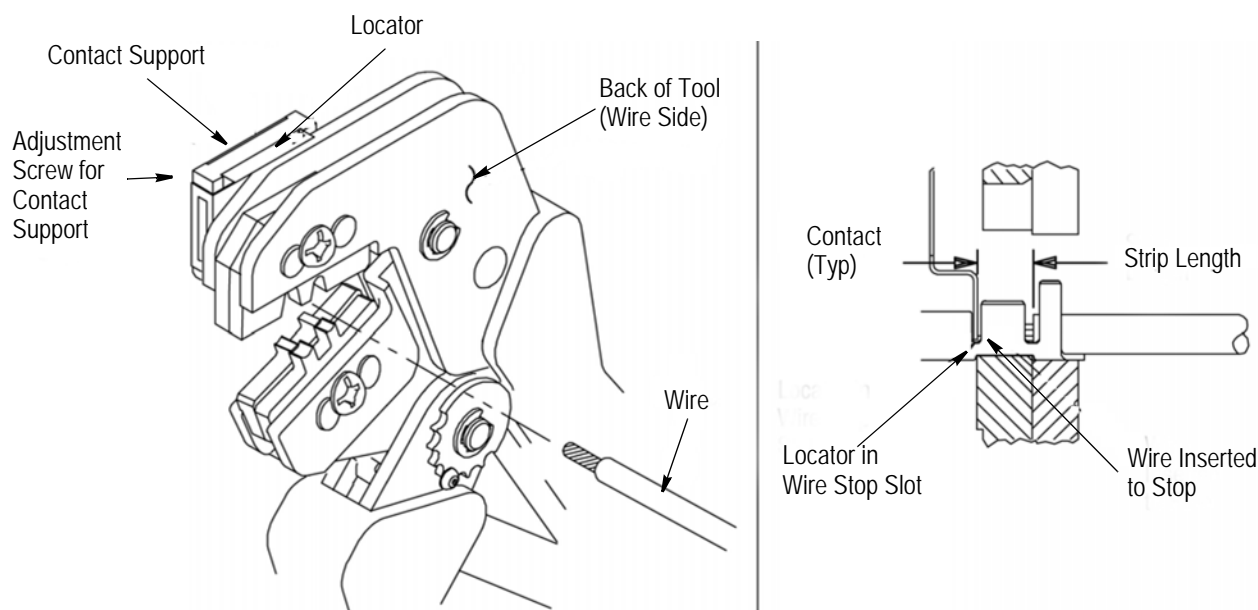

Figure 3
The contact support is preset prior to shipment, but minor adjustment may be necessary. Refer to Figure 3.
Refer to the table in Figure 1 and select wire of the specified size and insulation diameter. Strip the wire to the length indicated in Figure 1, taking care not to nick or cut wire strands. Select an applicable contact and identify the appropriate crimp section according to the wire size markings on the tool. Refer to Figure 3 and proceed as follows:
3. Position the contact so that the mating end of the contact is on the locator side of the tool, and so that the open “U” of the wire and insulation barrels face the top of the tool. Place the contact up into the nest so that the movable locator drops into the slot in the contact. Refer to Figure 3. Butt the front end of the wire barrel against the movable locator.
5. Insert stripped wire into contact insulation and wire barrels until it is butted against the wire stop, as shown in Figure 3.
NOTE The crimped contact may stick in the crimping area, but the contact can be easily removed by pushing downward on the top of the locator (see Figure 3).